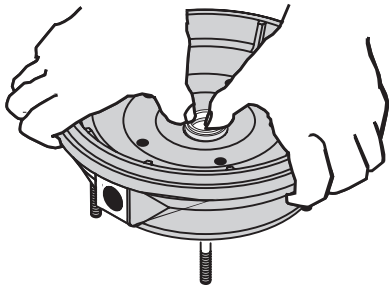

Figure 24 – Press in New Seal
- Put clean cardboard washer on seal face. With thumb pressure, press ceramic seal half firmly and squarely into seal cavity (See Figure 24). Polished face of ceramic seat is up. If seal will not seat correctly, remove, placing seal **face up** on bench. Reclean cavity. Seal should now seat correctly.